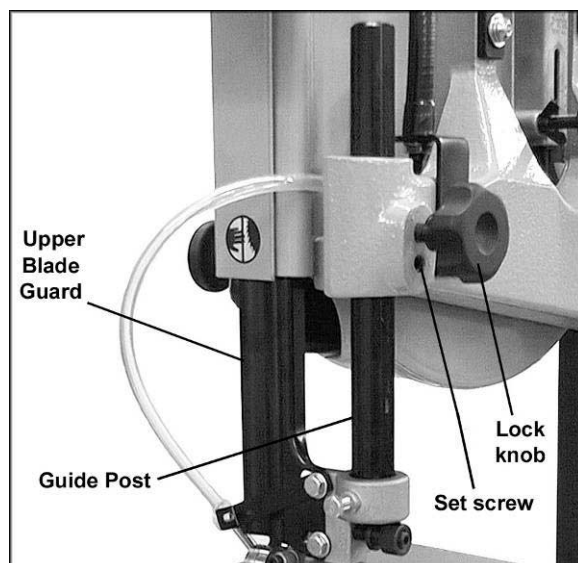

Figure 46
Refer to Figure 46.
- The *guide post* (Figure 46) is spring loaded. To adjust the tension on the spring, unscrew and completely remove *knob*, then tighten or loosen *set screw*, until desired tension is reached. Re-install *knob*.